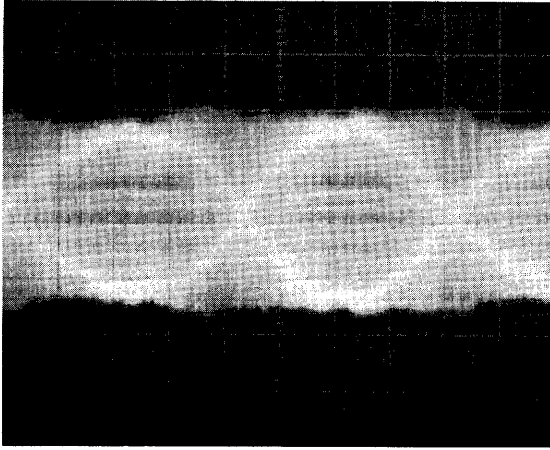

Figure 6-27. Radial Alignment, Head Aligned
- (2) Set the exerciser to position heads to cylinder 146.
- (3) Select head 0.
- (4) Observe the waveform at TP2 on the Read/Write PCBA (Figure 5-5) and compare it to the waveform shown in Figure 6-27.
- (5) Select head 1 and repeat Step (4).